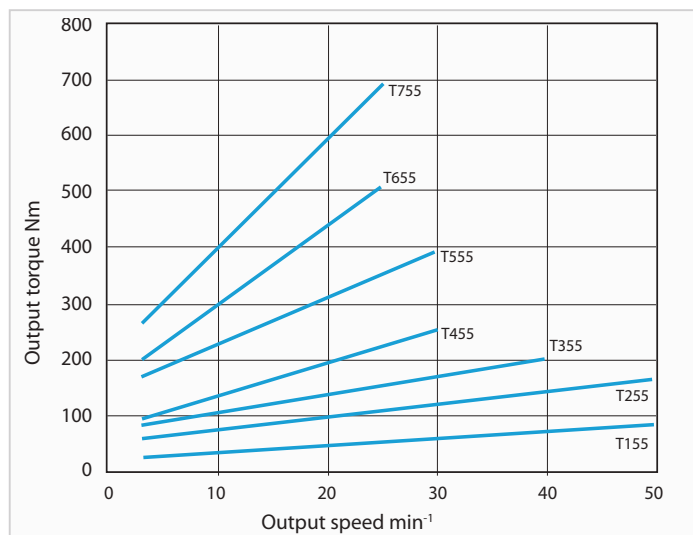

Fig. T1 Input side no-load running torque
- Fig. T1 shows the average no-load running torque after gearbox is run in (not factory-new condition).